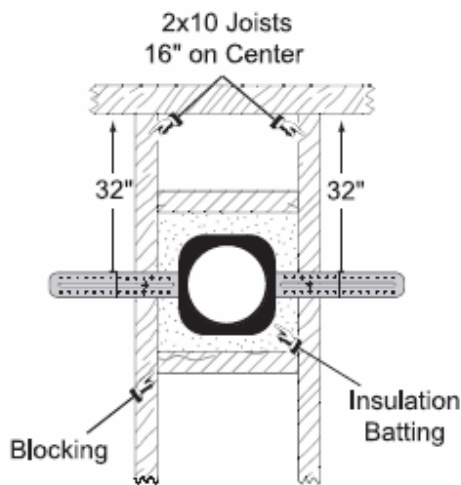

Figure 6
- F. It is recommended to install blocking and insulation for the best possible sound quality. Refer to the On-Q speaker cubic footage chart included with the speaker instruction sheet. **(See Figure 6)**